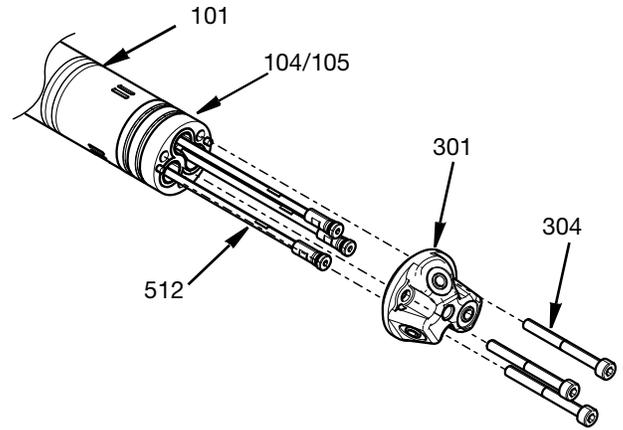

FIG. 15
4. Unscrew the three M4 hex head screws (304) that attaches the nozzle head (301) and adapter (104/105) to the front end of the central body (101). The shutoff valve rods (512) can then be removed. See FIG. 15.